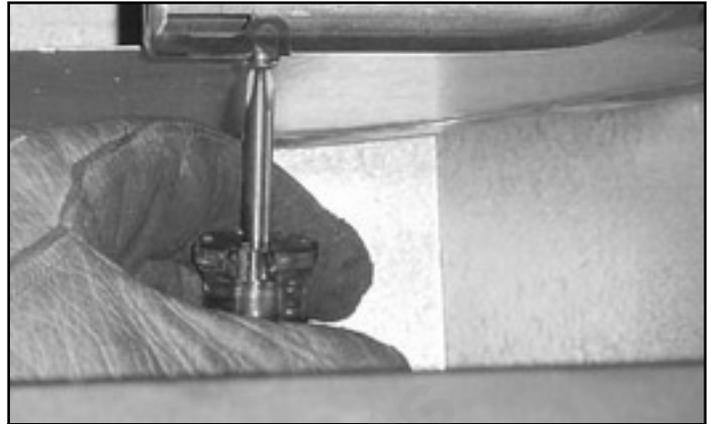

Figure 12.10 Air Shutter
This appliance has an adjustable air shutter (which controls the primary air) factory set for the minimum vertical vent run (see Figure 12.10). If your installation has more than the minimum required vertical vent length, adjustment of the air shutter may be necessary to obtain optimal flame appearance. **This should be adjusted by a qualified installer at the time of installation.**
- Locate the air shutter mounted on the end of the main burner. Loosen the locking screw, open the air shutter, and retighten the locking screw. See Figure 12.10.